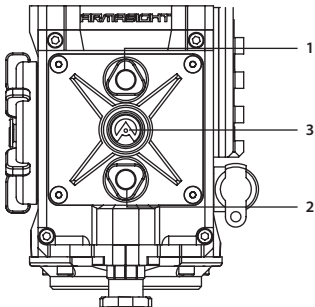

FIGURE 3-6. BUTTON CONTROL PANEL
The Helios HD button control panel is shown in Figure 3-6.
Table 3-2 contains the button functions and their descriptions. The ITEM NO. column indicates the number used to identify buttons in Figure 3-6.
To display the MAIN MENU, hold down button (3) on the control panel (Figure 3-6).